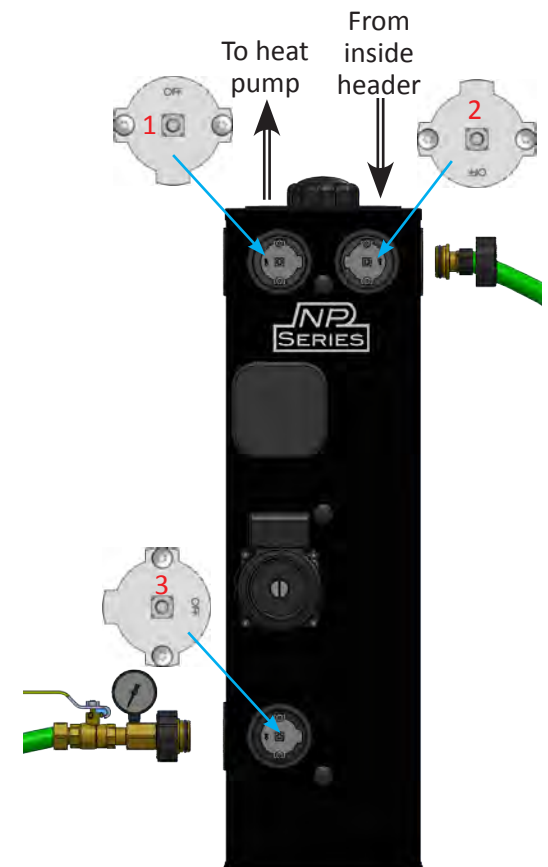

Figure 17: Purging air from the individual circuits
10. Rotate valve #1 so that OFF is in the 12-o'clock position. This prevents fluid from the loop from returning to the flow center tank (Figure 17).
11. Rotate valve #3 so that OFF is in the 3-o'clock position. This opens the valve to the tank, pump, and supply hose (Figure 17).
12. Direct the discharge hose into the top of the tank, or rotate valve #2 so that OFF is in the 3-o'clock position. Either of these actions directs the return fluid into the tank (Figure 17).